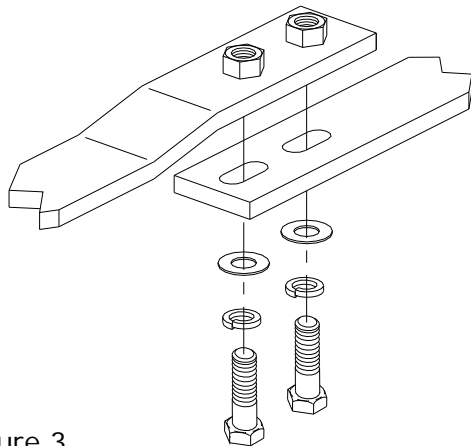

Figure 3
3. Connect the Post Holders in the center, positioning the 1/2" x 1-1/2" bolts, lock washers and flat washers from the bottom, up, finger tight. See Figure 3 on Page 9.